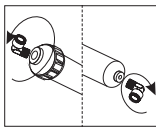

Fig. 7
- 2) Screw the connector into a new cartridge. **WARNING! When driving connector do not back track it. Withdrawal of the screwed connector can lead to faulty connection and water leakage (Fig. 7).**